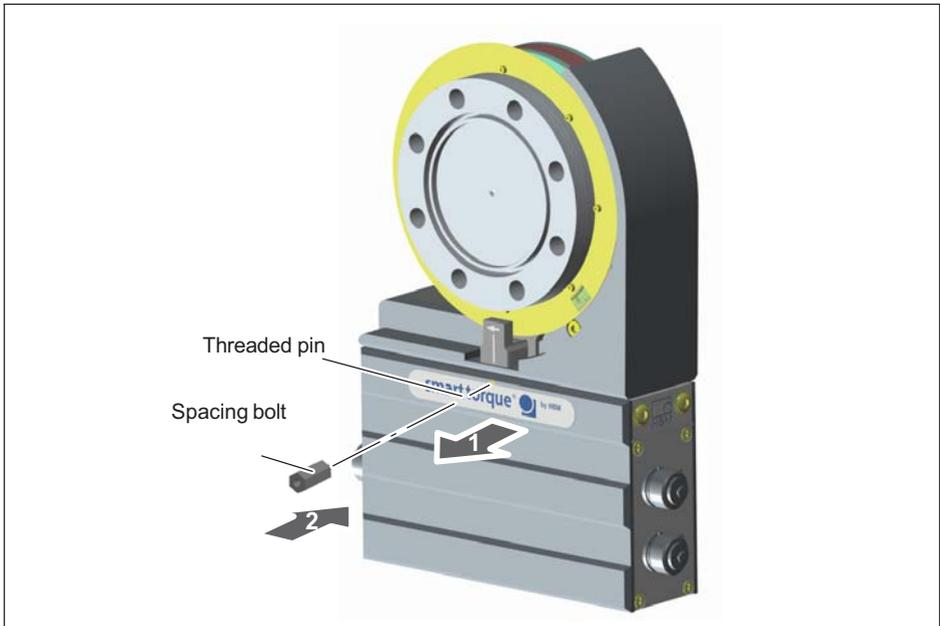

Fig. 8.6 Fitting the spacing bolt (for $5 \text{ kN} \cdot \text{m}$ and $10 \text{ kN} \cdot \text{m}$ only)
- For $5 \text{ kN} \cdot \text{m}$ and $10 \text{ kN} \cdot \text{m}$ measurement ranges only: remove the threaded pins from the tapped holes on both sides of the stator. Screw the spacing bolt into the tapped hole on the side of the speed sensor (see Fig. 8.6).